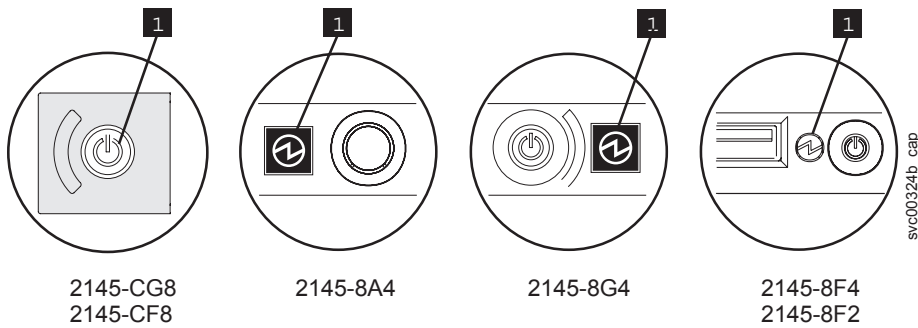

Figure 88. Power LED on the SAN Volume Controller models 2145-CG8, 2145-CF8, 2145-8A4, 2145-8G4, and 2145-8F4 or 2145-8F2 operator-information panel
1. Check the SAN Volume Controller models 2145-CG8, 2145-CF8, 2145-8A4, 2145-8G4, and 2145-8F4 or 2145-8F2 power LED (**1** in Figure 88 on page 100).